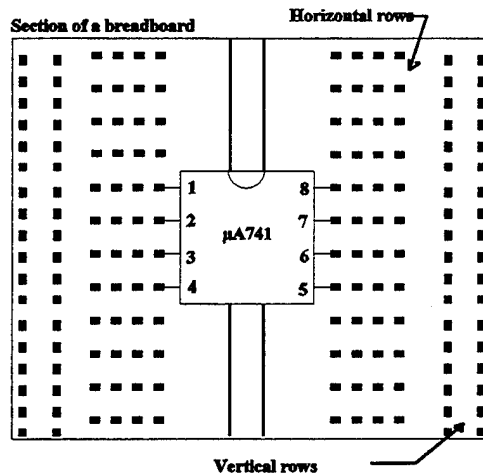
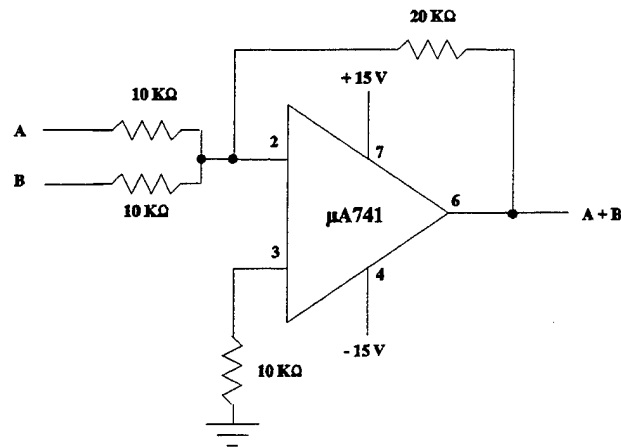

Figure 1
Figure 2
The TDM circuit is constructed using four integrated circuit chips adapted from Ref. [4]. See Figure 2 of Appendix D. A square wave and a triangle wave are produced using a XR8038 precision waveform generator. They are multiplexed with two external inputs, a DC signal and a square wave, using a CD4051B analog multiplexor. The output waveform is a combination of the four signals. Each signal is sampled once every clock pulse. The clock frequency of 7.5 kHz is provided by a CD4029B up/down counter.
The end of the chip with the semicircular mark is the top. The pins are numbered from the top left. See Figure 1.
b) Figure 2 is a representation of a summer circuit. This circuit adds the two input signals, denoted A and B, and multiplies them by a gain of two. The pins numbers on the op-amp correspond to the numbers marked in Figure 1. Connect the circuit of Figure 2, disregarding connections to A and B. They will be connected later. Use three horizontal busses. One bus will be for ground, one for + 15 volts and one for - 15 volts. Measure the power **before** it is connected to the circuit! The ± 15 volts and ground will come from the P5S03 power supply. To measure the power, connect the ground and the positive output of the power supply to the DMM. Adjust the power until it reads + 15 volts. Remove the positive lead from the power supply and connect it to the negative output of the P5S03. The DMM should now read negative volts. Adjust the power supply for -15 volts.